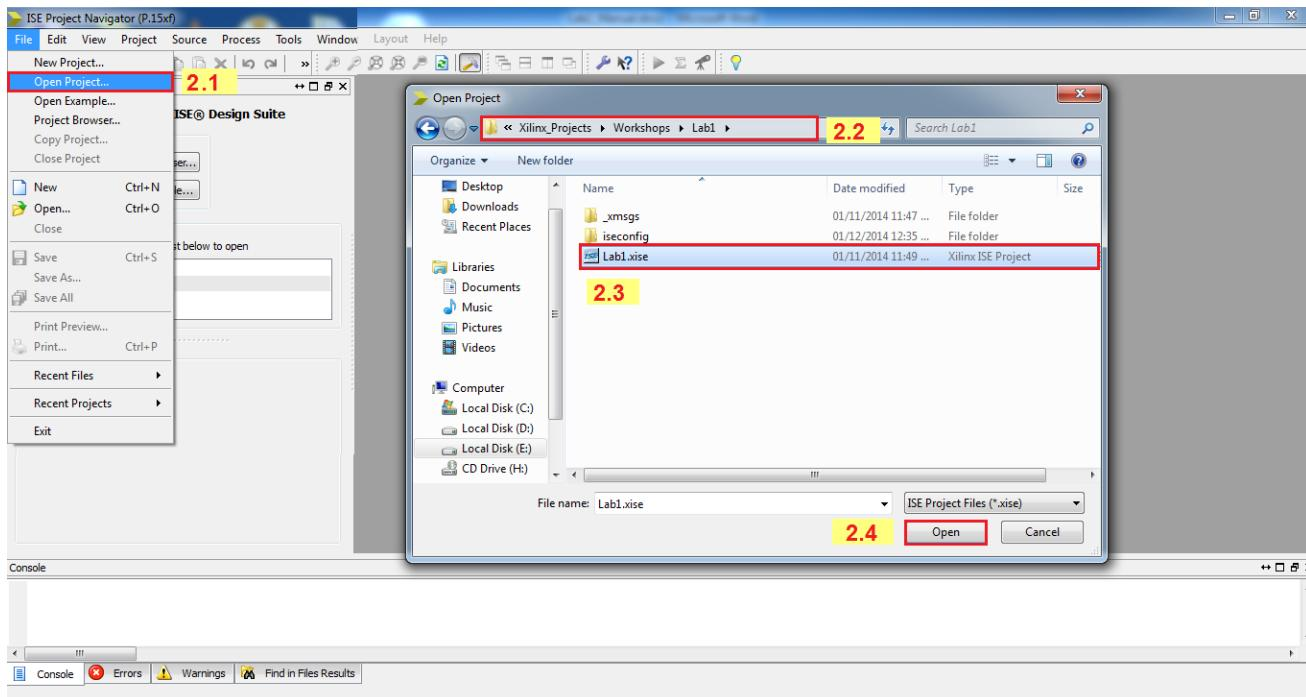

Figure 3.
2. Open the project (Figure 3)